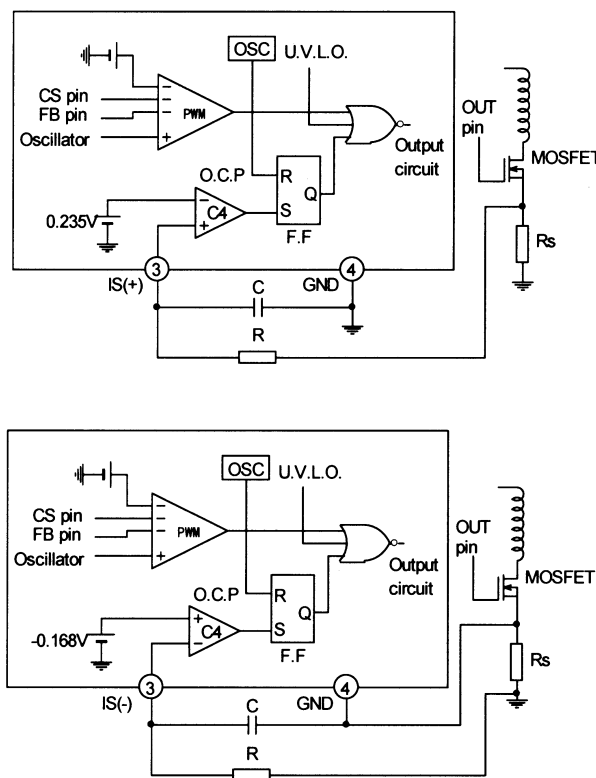

Fig. 14 Overcurrent limiting circuit
The overcurrent limiting circuit detects the peak value of every drain current pulse (pulse by pulse method) of the main switching MOSFET to limit the overcurrent. The detection threshold voltage is +0.235V for FA3641 or -0.168V for FA3647 with respect to the ground as shown in Figure 14.
If the overcurrent limiting circuit malfunctions due to noise, place an RC filter between the IS pin and MOSFET as shown in Figure 14. (See item 14 in “Design advice.”)